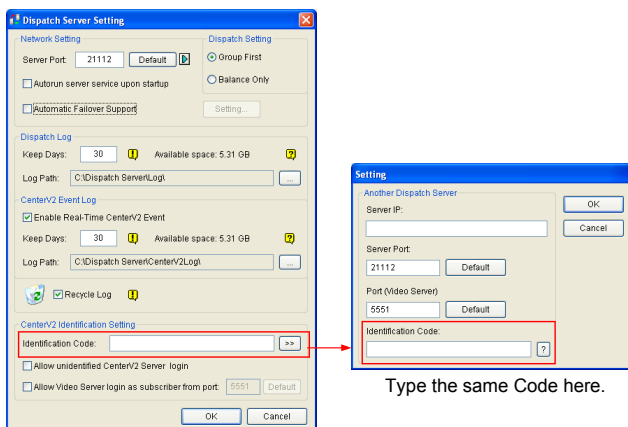

Figure 2-11
4. Click the **Add** button. The Setting dialog box (Figure 2-11) appears.